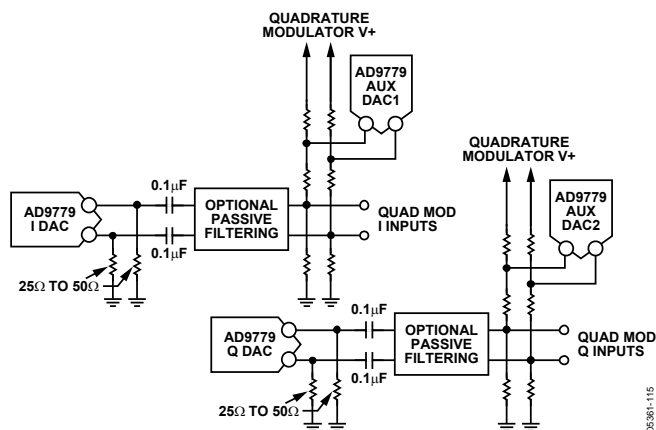
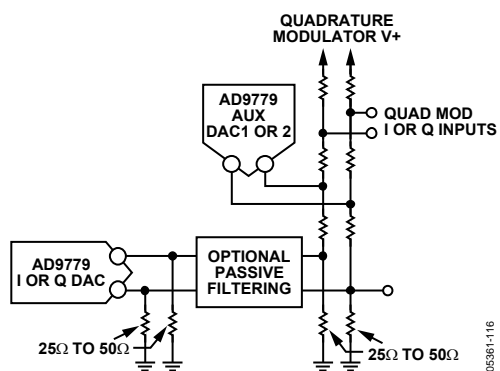

Figure 79. Typical Use of Auxiliary DACs AC Coupling to Quadrature Modulator
Figure 80. Typical Use of Auxiliary DACs DC Coupling to Quadrature Modulator with DC Shift
The auxiliary DACs can be used for local oscillator (LO) cancellation when the DAC output is followed by a quadrature modulator. This LO feedthrough is caused by the input referred dc offset voltage of the quadrature modulator (and the DAC output offset voltage mismatch) and can degrade system performance. Typical DAC-to-quadrature modulator interfaces are shown in Figure 79 and Figure 80. Often, the input common-mode voltage for the modulator is much higher than the output compliance range of the DAC, so that ac coupling or a dc level shift is necessary. If the required common-mode input voltage on the quadrature modulator matches that of the DAC, then the dc blocking capacitors in Figure 79 can be removed. A low-pass or band-pass passive filter is recommended when spurious signals from the DAC (distortion and DAC images) at the quadrature modulator inputs can affect the system performance. Placing the filter at the location shown in Figure 79 and Figure 80 allows easy design of the filter, as the source and load impedances can easily be designed close to 50 Ω.